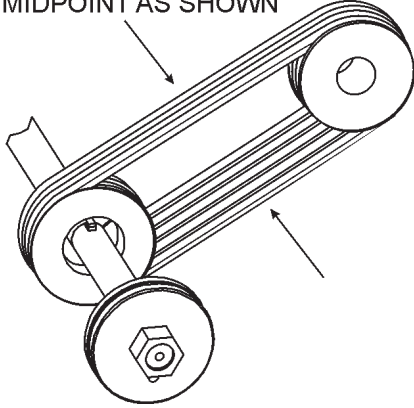

Figure 17. V-Belt Tension
- Check V-belt tension (Figure 17) by using a tensionmeter (6.0 - 9.0 lbs.) against the inside belt at a mid point between the two pulleys, or by deflecting the center belt at a mid point 3/8" (10 mm) - 1/2" (13 mm).